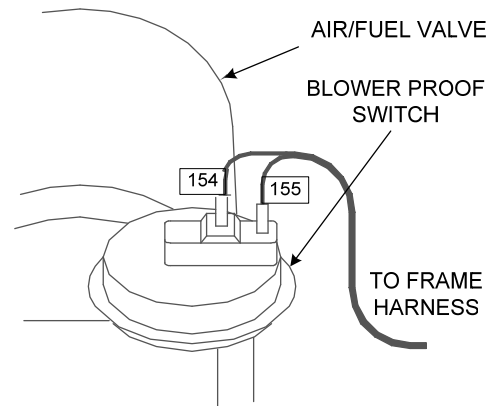

Figure 3-5.
4. Next, the blower proof switch (Figure 3-5) closes and the display will show *Purging* and indicate the elapsed time of the purge cycle in seconds. The normal (default) time for the purge cycle is 7 seconds.